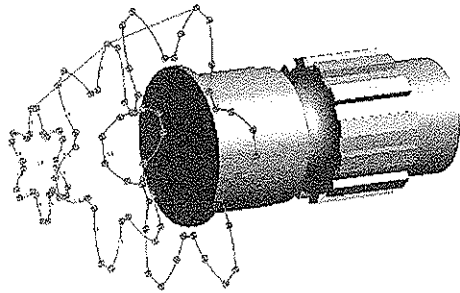

Figure 5-91 Modified guide line
16. Similarly, select point 1 of the second and third profiles; the path of the guide line changes, as shown in Figure 5-91.